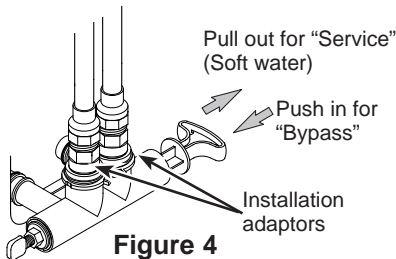
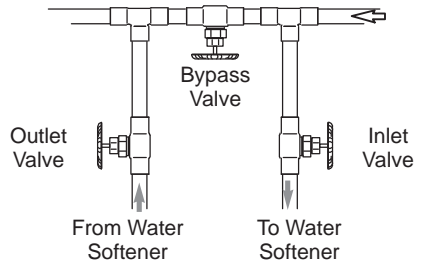
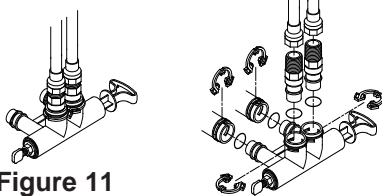

Figure 4
Figure 5
Figure 11
Always install either a single bypass valve (provided), as shown in Figure 4, or, if desired, parts for a 3 valve bypass system (not included) can be purchased and assembled, as shown in Figure 5. Bypass valves allow you to turn off water to the softener for maintenance if needed, but still have water in house pipes.
If you install a 3-valve bypass system (Figure 5), electrical continuity will be maintained. If you install the non-metallic bypass valve (Figure 11), please refer to the Installing the Ground Wire section before cutting the pipe.
3. Place the bypass valve in "bypass" position (see Figure 4). On a single valve, slide the stem inward to bypass. On a 3-valve bypass, close the inlet and outlet valves and open the bypass valve.
8. Once the unit is in the backwash, place bypass valve in SERVICE position (see Figure 4), exactly as follows: